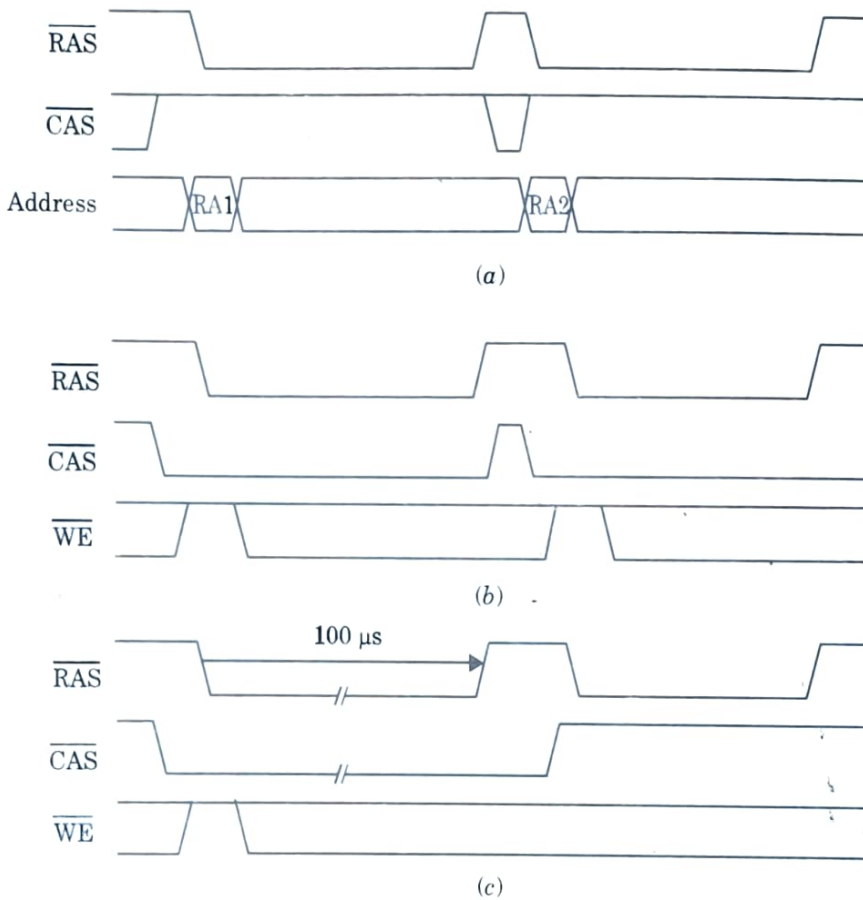

Fig. 4.2.2. Timing diagram for various DRAM refresh operation models, (a) ROR refresh, (b) CBR refresh, (c) Self refresh.
6. Fig. 4.2.2 shows typical timing diagrams for refresh operations called ROR($\overline{\text{RAS}}$ – only refresh), CBR($\overline{\text{CAS}}$ – before – $\overline{\text{RAS}}$) refresh and self refresh.